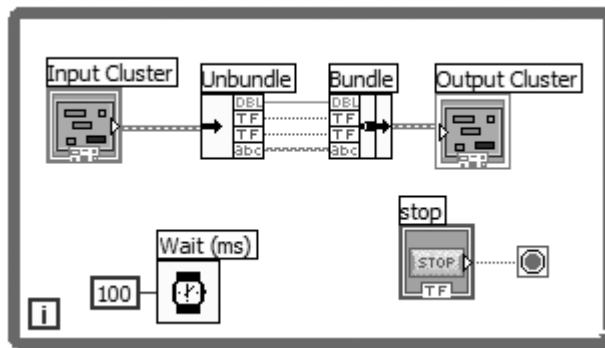

Figure 7.52
- Build the block diagram shown in Figure 7.52. Notice that even though each cluster contains four objects, you see only one terminal per cluster on the block diagram. Make sure you change (if necessary) the conditional terminal of the While Loop so that it is set to **Stop if True** (you can do this by popping up on the conditional terminal).